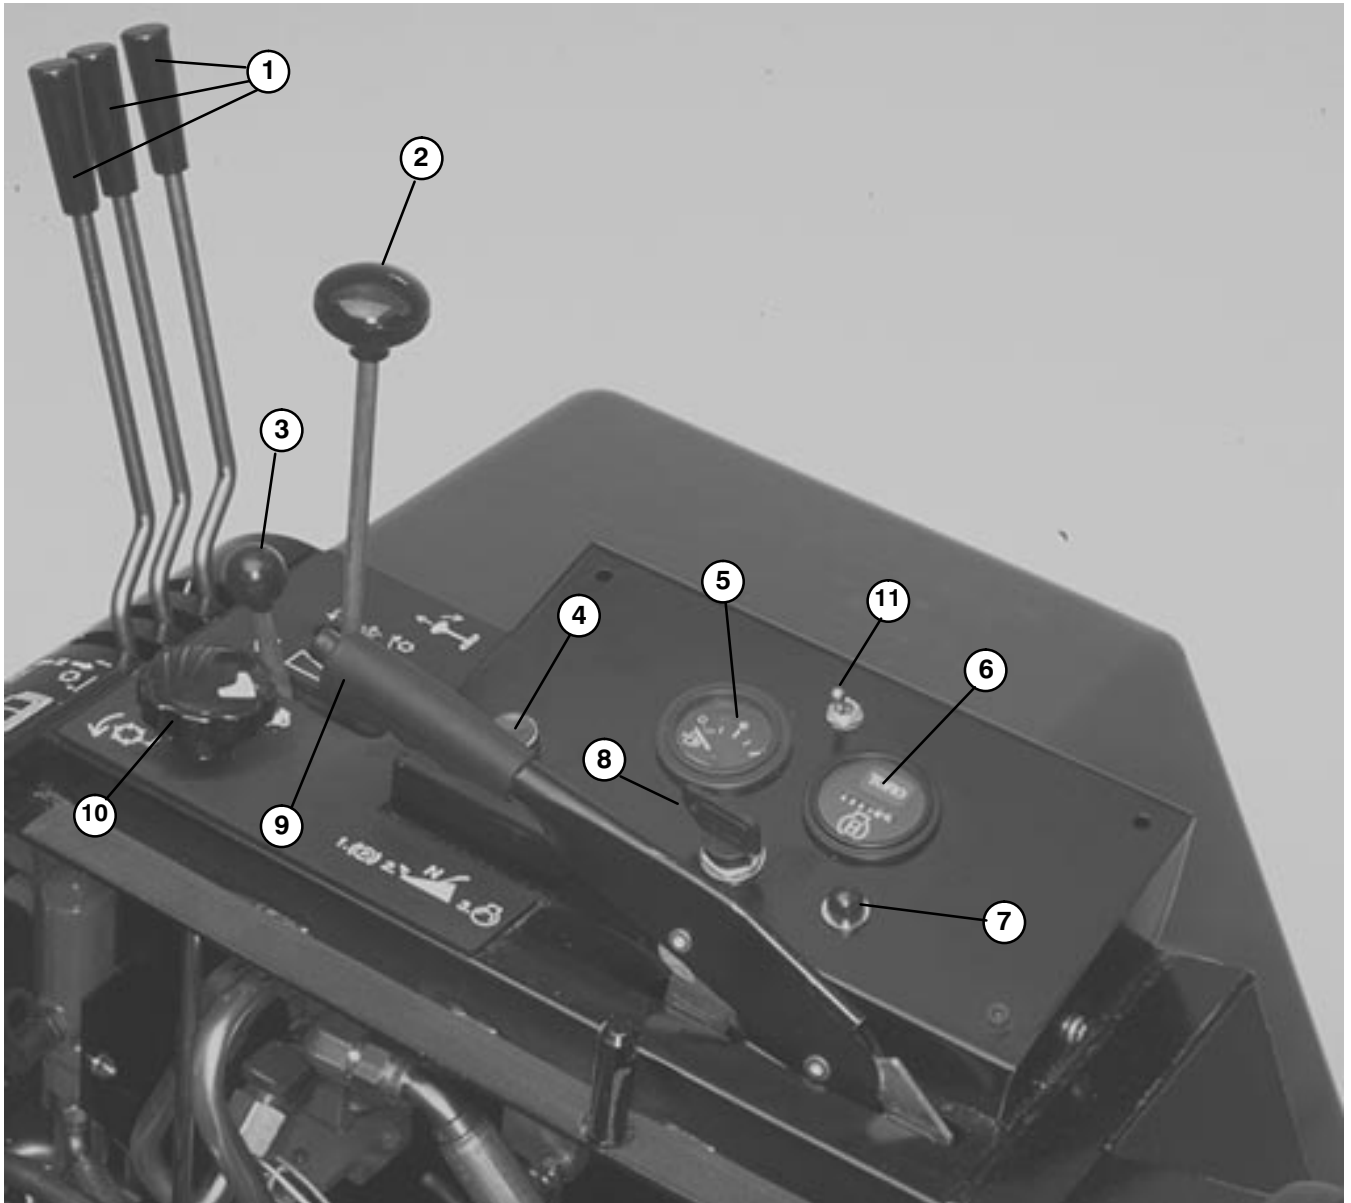

Figure 12
Cutting Unit Lift Controls (Fig. 12) – The two outside levers raise and lower the two outside cutting units. The center lever raises and lowers the two front and the center cutting units. Engine must be running to lower cutting units. When cutting units are lifted, reels automatically stop. Do not allow levers to snap-back
Engine Override Button (Fig. 12) – When button is depressed, engine can be operated after it has over heated and automatically been stopped by the electrical safety system. Use only for short intervals.
Fuel Level Gauge (Fig. 12) – Indicates amount of fuel in tank.
Hour Meter (Fig. 12) – Indicates total hours that machine has been operated.
Engine Preheat Indicator Light (Fig. 12) – Light turns on when key is moved to ON position. Glow plugs engage for 10 seconds, then, light goes off when engine is ready to start.
Key Switch (Fig. 12) – Three positions: OFF, ON and START. Rotate key to START and release key when engine begins running. To stop engine, rotate key to OFF.
Parking Brake Lever (Fig. 12) – Pull lever up to lock brake. To release brake, pull up on lever, press button and lower lever. Brake must be engaged to start engine. Always engage parking brake before getting off seat.
Mow–Backlap Lever (Fig. 12) – Move lever forward to engage cutting units. Move lever to the center to stop the cutting units. To backlap cutting units, lift lever over stop and hold in the rear position.
Reel Speed Control (Fig. 12) – Rotate knob clockwise to increase reel speed, counter–clockwise to decrease speed. Use in conjunction with the ground speed limiter to achieve appropriate rate of clip.
Throttle Control (Fig. 12) – Move control forward to increase engine speed, backward to decrease speed.
4 Wheel Drive Switch (Fig. 12) – (4 wheel drive model only) Move switch forward to engage 4 wheel drive. Move switch to rear position to disengage 4 wheel drive.
1. Sit on the seat, keep foot off traction pedal. Assure parking brake is engaged (Fig. 12). Traction pedal and mow/backlap lever must be in neutral.
2. Sit on the seat and engage parking brake (Fig. 12). Turn key and try to start engine with Mow-Backlap lever (Fig. 12) in both the MOW and BACKLAP positions. If engine cranks, there is a malfunction that must be repaired immediately. If engine does not crank, the cutting unit drive switch is operating properly.
Warning System – If a warning light comes on during operation, stop the machine immediately and correct the problem before continuing operation. Serious damage could occur if the machine is operated with a malfunction. For short intervals, however, the emergency engine override button (Fig. 12) can be used to operate the engine if it stops because of overheating.